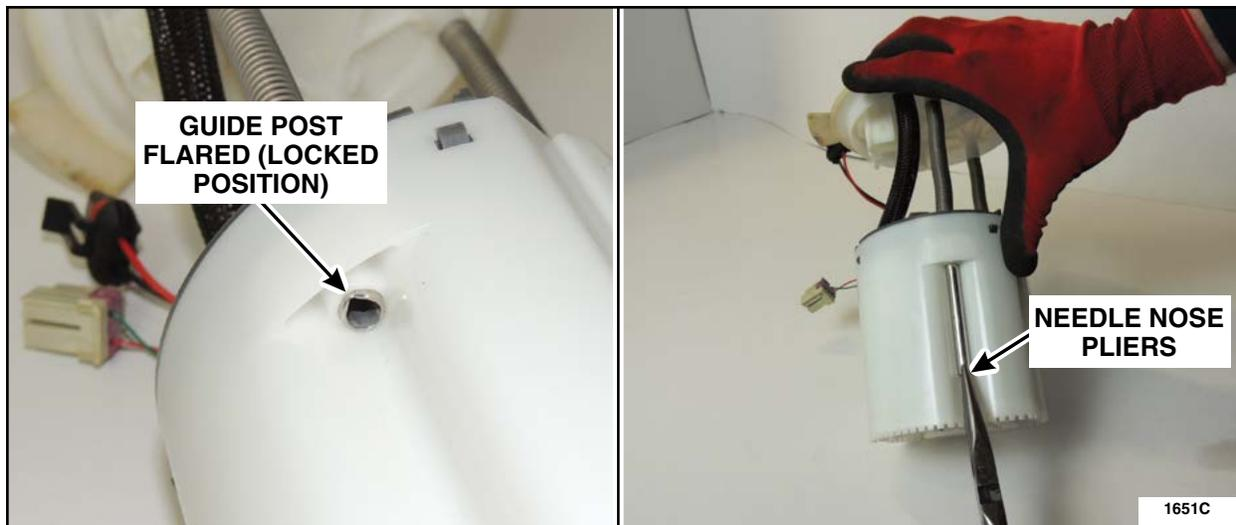

FIGURE 5
5. Using a pair of needle nose pliers, round the lower flared portion of the guide post. When the guide post on each side of the FDM has been sufficiently rounded, the upper flange can be removed. See Figure 5.
NOTICE: When flaring the end of each guide post, only apply enough pressure to prevent the guide post from pulling through the lower module. Using excessive pressure when flaring may cause bending of the guide post, which can limit the necessary travel of the flange. The flared guide post should look similar to Figure 5, and no more than 1/2 in (12.7 mm) of the guide post should be exposed on the bottom side of the FDM after flaring.